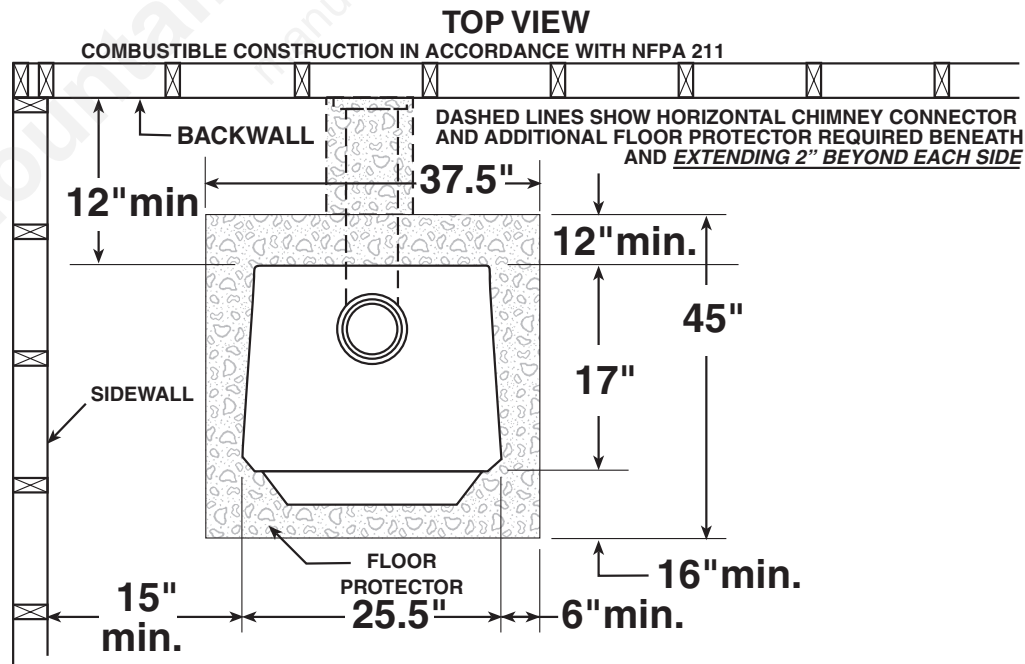

Fig. 1 – TOP VIEW Minimum Clearance Dimensions from Combustible Surfaces
10. After properly locating floor protector (fig 1, page 4) to accommodate minimum stove clearances, place stove in position on floor protector.
1. The stove must be placed on solid concrete, solid masonry, or when installed on a combustible floor, on a Type 2 UL1618 Listed floor protector, such as Hy-C or Imperial Model UL 4048BK or equivalent with 0.8 R-factor. (NOTE: to calculate R-value of alternative materials see page 18). The base **must** extend at least 16" beyond the front of the access door, 6" to the sides and 12" to the rear, and must extend under and 2 inches beyond either side of the stove pipe if it is elbowed towards a wall. (See figures 1 & 3 and consult local building codes and fire protection ordinances).
CAUTION: (FIRE HAZARD) CARPETING AND OTHER COMBUSTIBLE MATERIAL SHALL NOT COVER THE FLOOR PROTECTOR. THESE MATERIALS MUST REMAIN OUTSIDE OF COMBUSTIBLE CLEARANCES, SEE FIG. 1 – 3.
3. After observing the clearances to combustible materials (figures 1–3), locate your floor protector accordingly (figure 1) and carefully place the stove in your selected location. Install stove pipe, elbows, and thimble as required, utilizing either a recently cleaned and inspected 6" masonry chimney or a 6" i.d. listed chimney.
4. Use 6" round black stove pipe, not galvanized stove pipe. Secure pipe sections with three (3) sheet metal screws in each stove pipe and/or elbow joint to firmly hold the pipe sections together. Do Not connect this stove to any air distribution or duct system.
5. Recheck clearances from the stove, connector stove pipe, and corner clearances using the illustrations in figures 1–3 and your local building codes or fire protection ordinances.